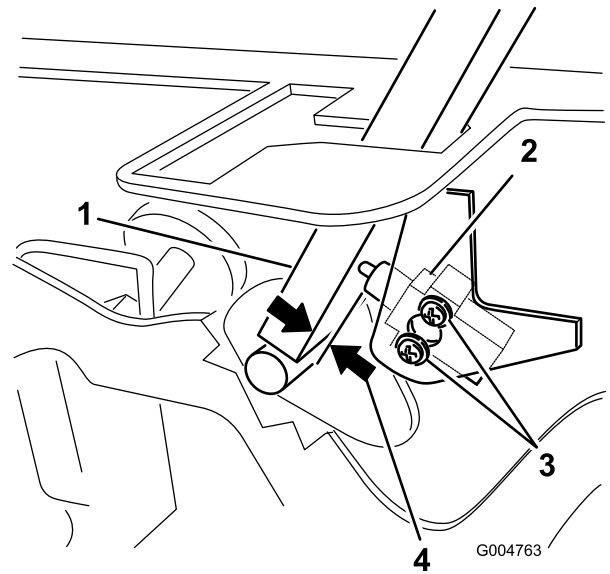

Figure 51
3. Loosen the 2 screws securing the interlock switch (Figure 51).
4. Holding the control lever against the frame, move the switch toward the lever until the distance between the lever and switch body is 0.4 to 1 mm (0.015 to 0.045 inch) as shown in Figure 51.